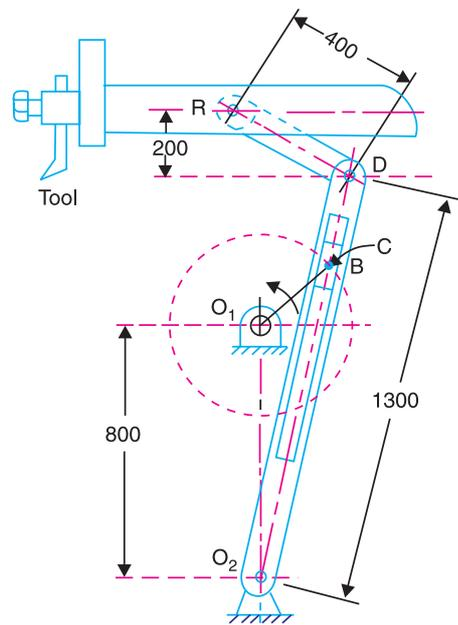

Fig. 7.17. All dimensions in mm.
**Example 7.7.** A quick return mechanism of the crank and slotted lever type shaping machine is shown in Fig. 7.17.